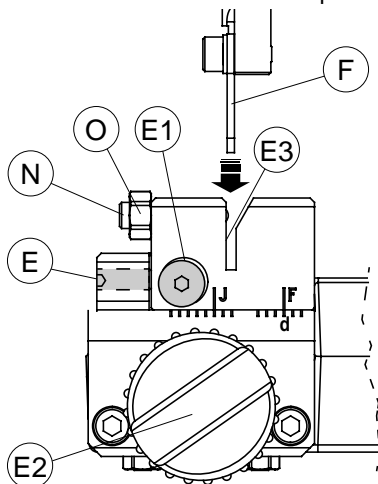

Fig. 11
- 1) set up the coded spacing device by means of the knob (E2) so that the indicator "F" is aligned with position "d" (fig.11).
- 3) take the carriage towards the cutting tool and place the tracer point (F) all the way into the locating groove (E3) (fig.11).
- 4) check that the cutting tool enters clearly into the groove (A3) in the gauging calliper. If adjustment is necessary, loosen screw (E1) and adjust axial gauging by means of the grub screw (E).
- 3) take the carriage towards the cutting tool and place the tracer point (F) all the way into the locating groove (E3) (fig.11, page 11).
If an optional carriage is used, check that the tracer point enters freely into the locating groove (E3) (fig.11, page 11) and that there is not excessive play on it. If necessary, adjust play between the locating groove and tracer point by loosening the nut (O) and turning the grub screw (N).